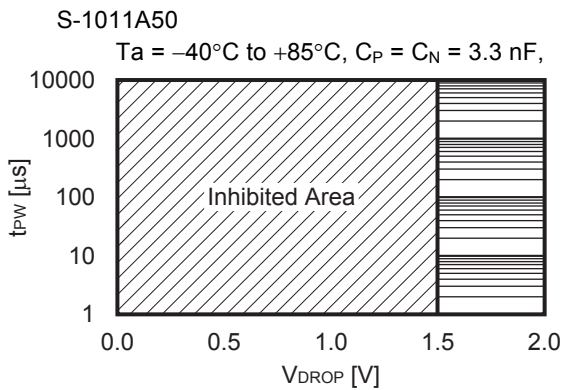

Figure 40
Figure 40 and Figure 41 show the relation between pulse width (t_{PW}) and V_{DD} lower limit (V_{DROD}) where a release signal can be output after the normal release delay time has elapsed when the V_{DD} pin (V_{DD} detection product) instantaneously drops to the detection voltage ($-V_{DET}$) or lower and then increases to the release voltage ($+V_{DET}$) or higher during release delay time.
- Figure 40 and Figure 41 show the input voltage conditions when a release signal is output after the normal release delay time has elapsed. When this is within the inhibited area, release may erroneously be executed before the delay time completes.
- When the V_{DD} pin voltage is within the inhibited areas shown in Figure 40 and Figure 41 during release delay time, input 0 V to the V_{DD} pin then restart the S-1011 Series.